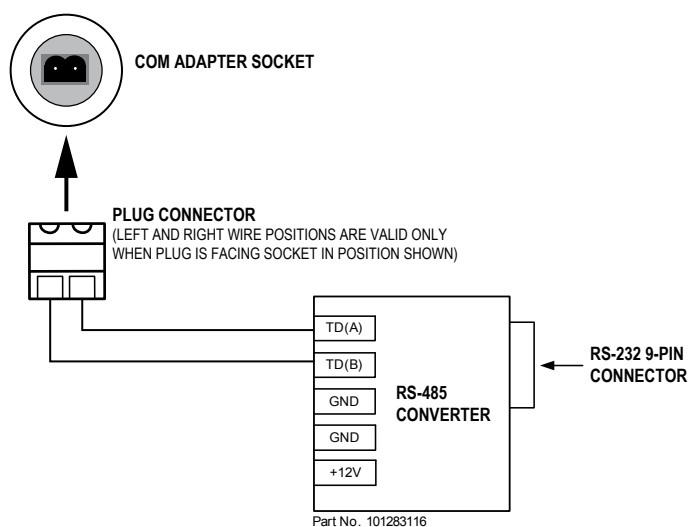

Figure A.13 - Wiring of plug connector to Sensia 9-pin RS-232 to RS-485 converter cable
The adapter is shipped pre-assembled in the NUFLO Scanner 2105 flow computer when it is ordered with the unit. The installed adapter is comprised of an RS-485 adapter socket, a blanking plug, and a union nut. A plug connector that mates with the RS-485 adapter socket when the adapter is in use is shipped with the device (uninstalled). This plug connector should be wired to an RS-485 converter cable, and stored with the cable when the COM adapter is not in use. Wiring instructions for connecting the plug connector to an RS-485 converter cable are provided in Figure A.13, pg. A-9.
1. Unscrew the union nut to expose the connector socket shown in Figure A.13. A blanking plug will be removed with the union nut. Store the union nut and blanking plug in a safe place. (They will need to be reinstalled when the adapter is not in use.)
2. Connect the plug connector to an RS-485 converter cable, if it is not already attached (Figure A.13).